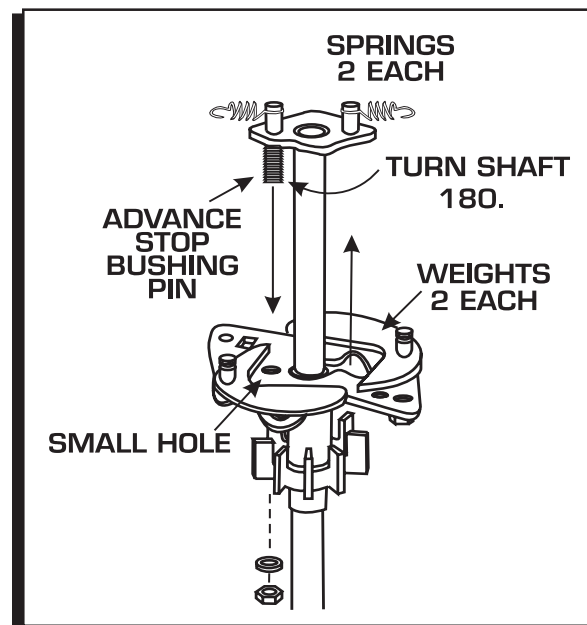

Figure 6 Locking Out the Centrifugal Advance.
4. Rotate the shaft 180° and insert the advance stop bushing pin into the small hole on the advance plate (Figure 6).